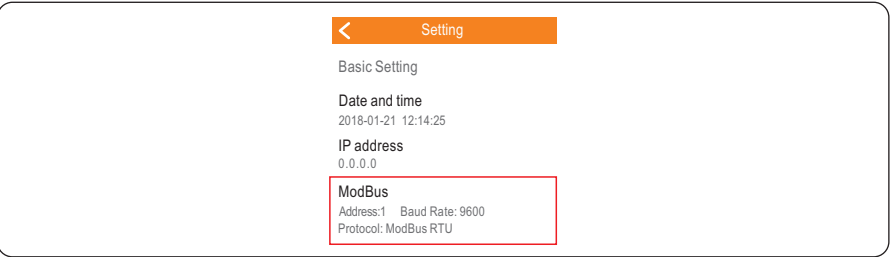

Figure 5.21 Check the Modbus address
**Step 3** Check the Modbus address in Figure 5.21, the default address is 1, long click to revise the address and save it, the inverter at same RS485 bus must be set a unique address.